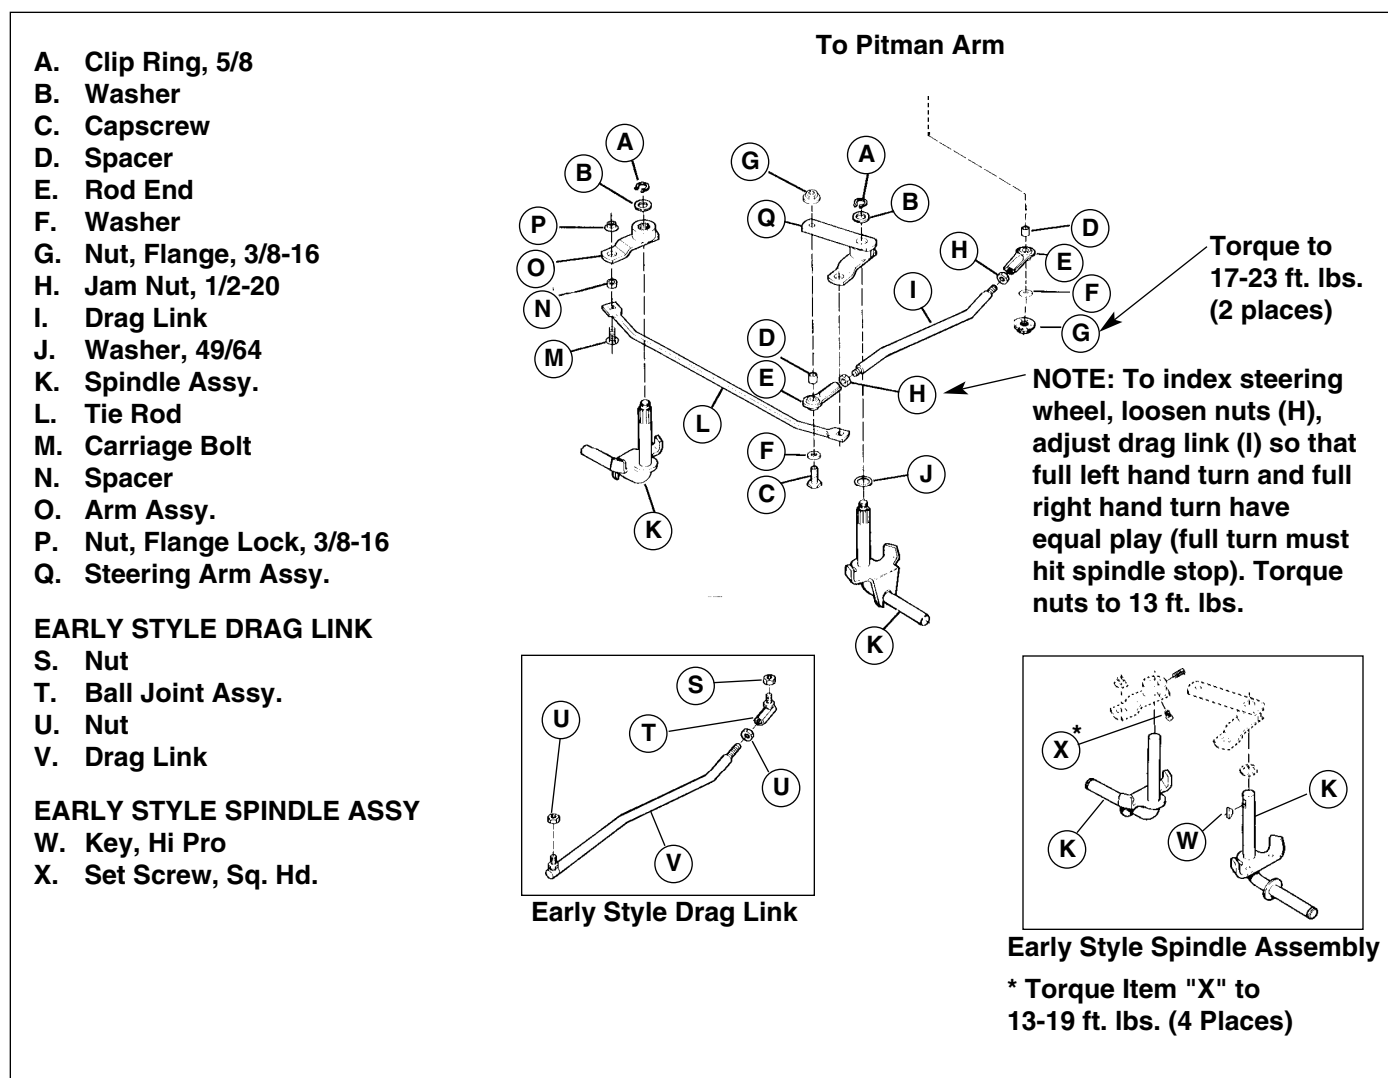

Figure A-6. Lower Steering Assembly
2. Observe torque specifications on Figure A-6.